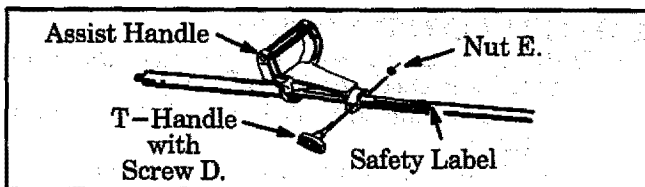

Figure 6
- Align the assist handle between the safety label and the end of the tube. Figure 6. Make sure hex recession in assist handle is on the left side of the tube.